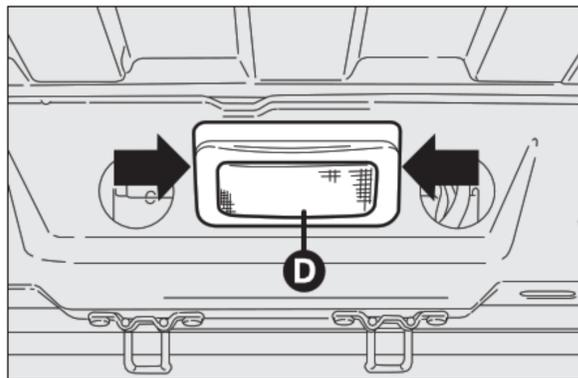
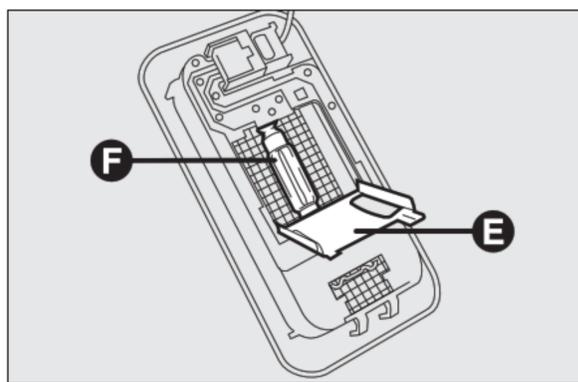

fig. 36
fig. 37
- work in the points shown by the arrows and remove light **D-fig. 36**;
- open the protection lid **E-fig. 37**;
- replace bulb **F-fig. 37** releasing it from the side contacts making sure that the new bulb is correctly clamped between the contacts;
- re-close the protection lid **E-fig. 37** and secure light **D-fig. 36** into its housing locking it properly.